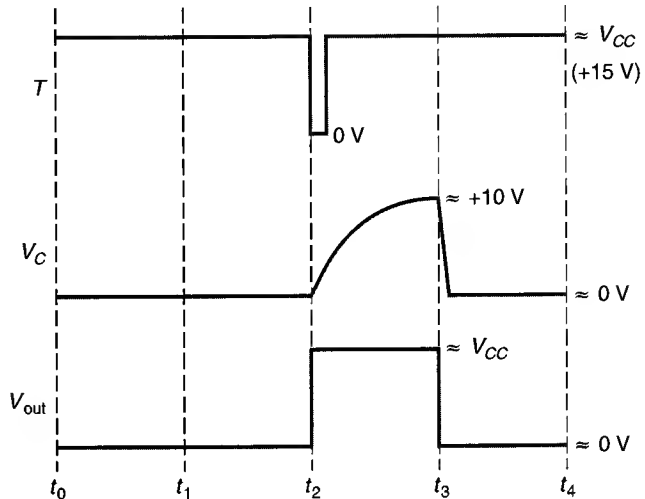

FIGURE 19.36 The 555 timer one-shot waveforms.
Now, let's look at the operation of the circuit. The appropriate waveforms are shown in Figure 19.36. To start with, we will assume that something caused the output of the flip-flop to be *high* before t_0 . You will see what caused this condition in a minute. However, we need to assume this high flip-flop output to understand the waveforms at t_0 .
Assuming that the output from the flip-flop is high, we know that pins 3 and 7 are both tied *low*. The low output at pin 7 ensures that the voltage across the capacitor (V_C) is approximately 0 V, as shown in Figure 19.36. This low voltage is applied to C_A via pin 6. With a low input to C_A , its output is low. Since both inputs to the flip-flop are low, its output does not change from the *high* voltage that was already present. The circuit voltages will remain as shown until something happens to change them.
3. The low flip-flop output is inverted and pin 3 goes *high*, as shown in Figure 19.36.
Whenever the inputs to the flip-flop are not equal, \bar{Q} goes to the same state as the *R* input. (This is verified in Figure 19.36.)